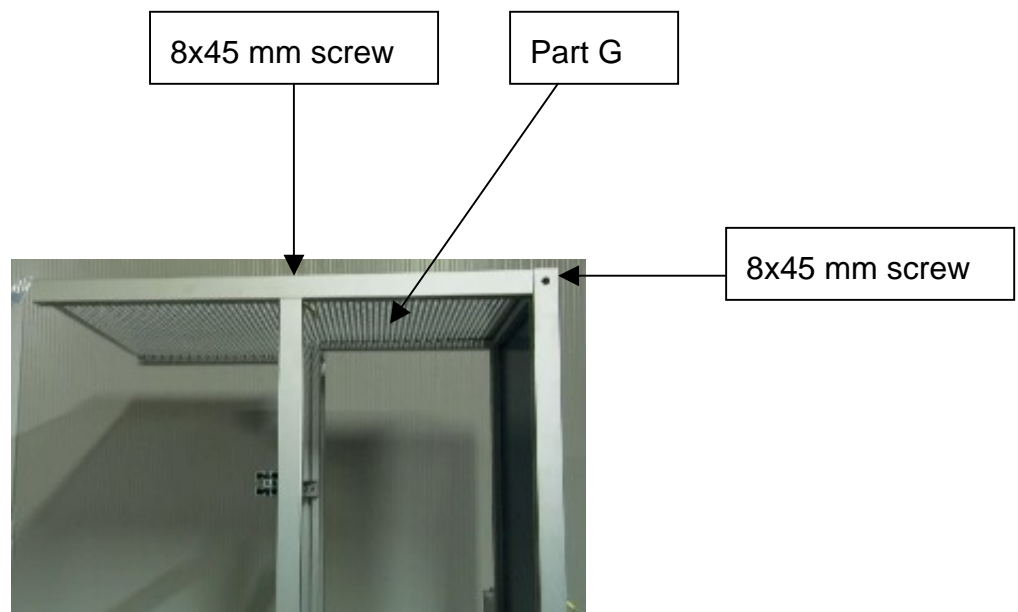

*Figure 8.*
*(Refer to figure 8 at the bottom of this paragraph)*
- Holding the top panel in a horizontal position, insert it into the grooves provided for this purpose, as shown in the figure 8.